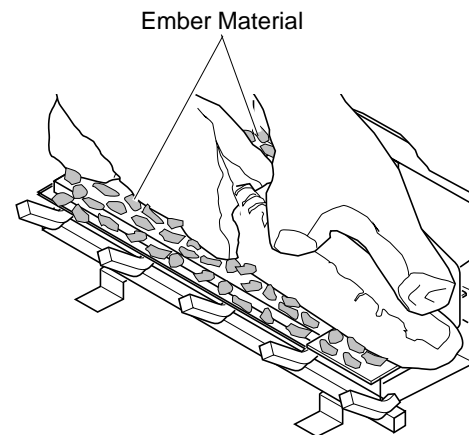

Figure 54 - Placing Ember Material on Burner
5. Pull ember material apart into pieces no larger than a dime. Place these pieces loosely onto the exposed section of the front burner and space between logs 2 and 3 where front burner is exposed (see Figure 54). This will create the glowing appearance as the flame touches the ember material. Do not block ports by using too much ember material in one area. It is not necessary to use all of the ember material provided.